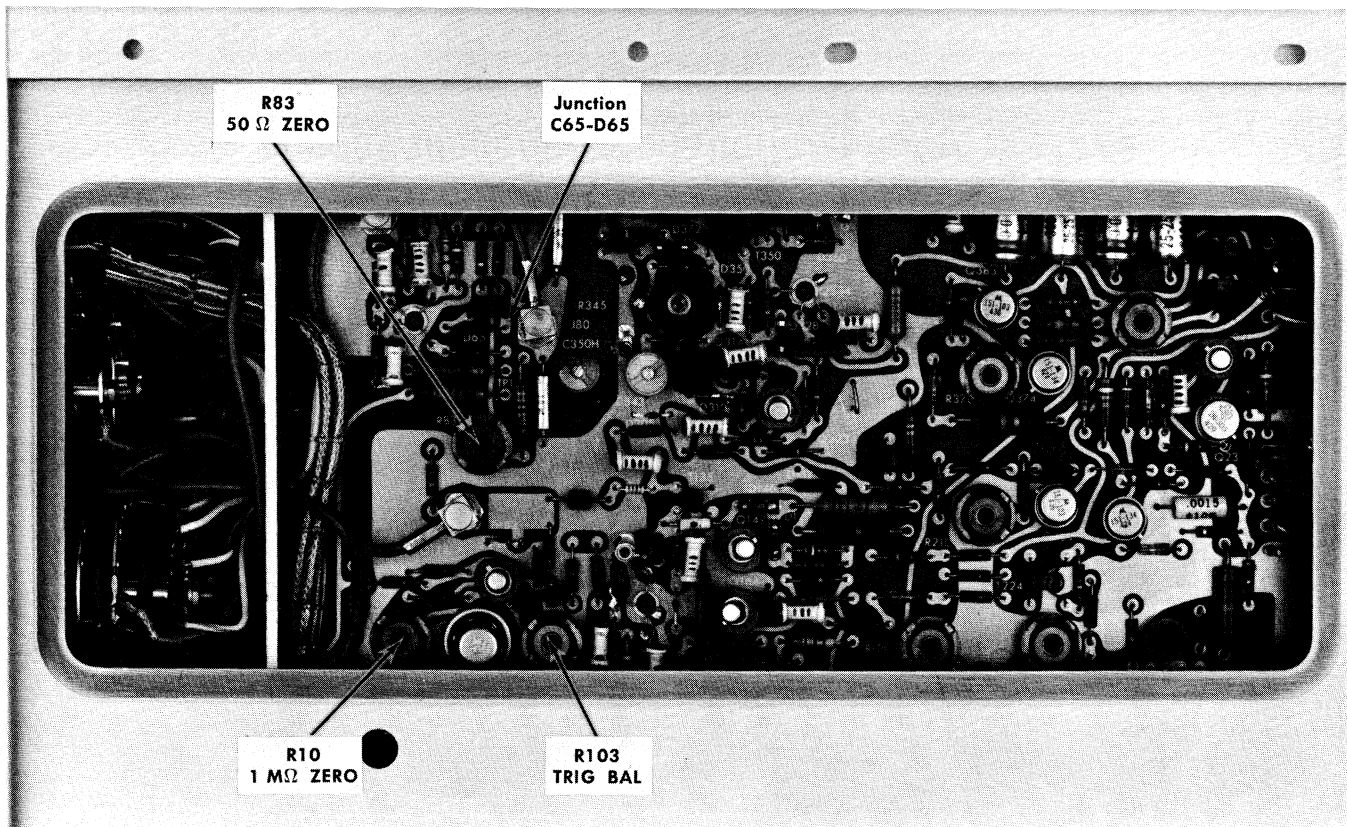

Fig. 5-4. Test point and controls for external trigger adjustments.
- e. Touch the other meter lead to the junction of C65 and D65. See Fig. 5-4 for the location of the test point.
l. **Adjust** R10 (1 MΩ ZERO) if the reading is not correct. See Fig. 5-4 for the location of R10.